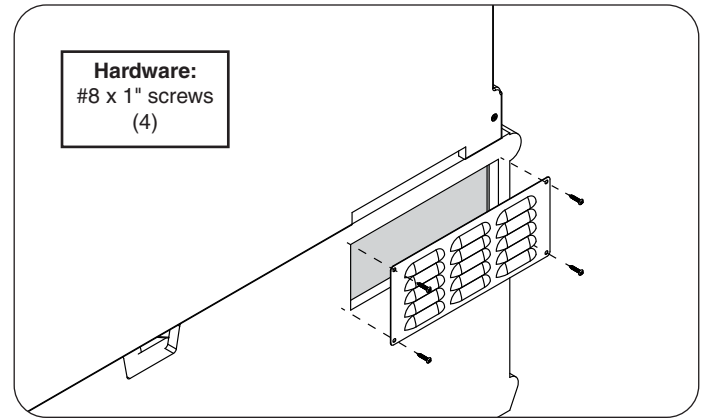

Fig. 33-1 Install louver
1. Reinstall the louver (that was previously removed). Use a Phillips screwdriver and the concrete screws (4) to fasten the wall to the unit as shown in Fig. 33-1.